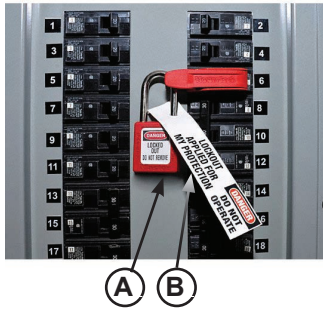

Figure 27
When working with electrical or electronic controls, make sure that the power source has been tagged (A) and locked out (B) according to OSHA regulations and approved local electrical codes. See Figure 27.